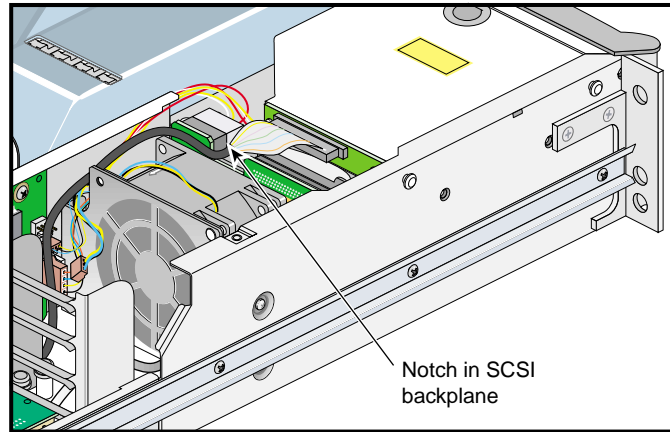

Figure 4 Routing Cable
8. Route the IDE cable through the notch in the SCSI backplane and then between the PCI bracket and the PCI riser board (see Figure 4).